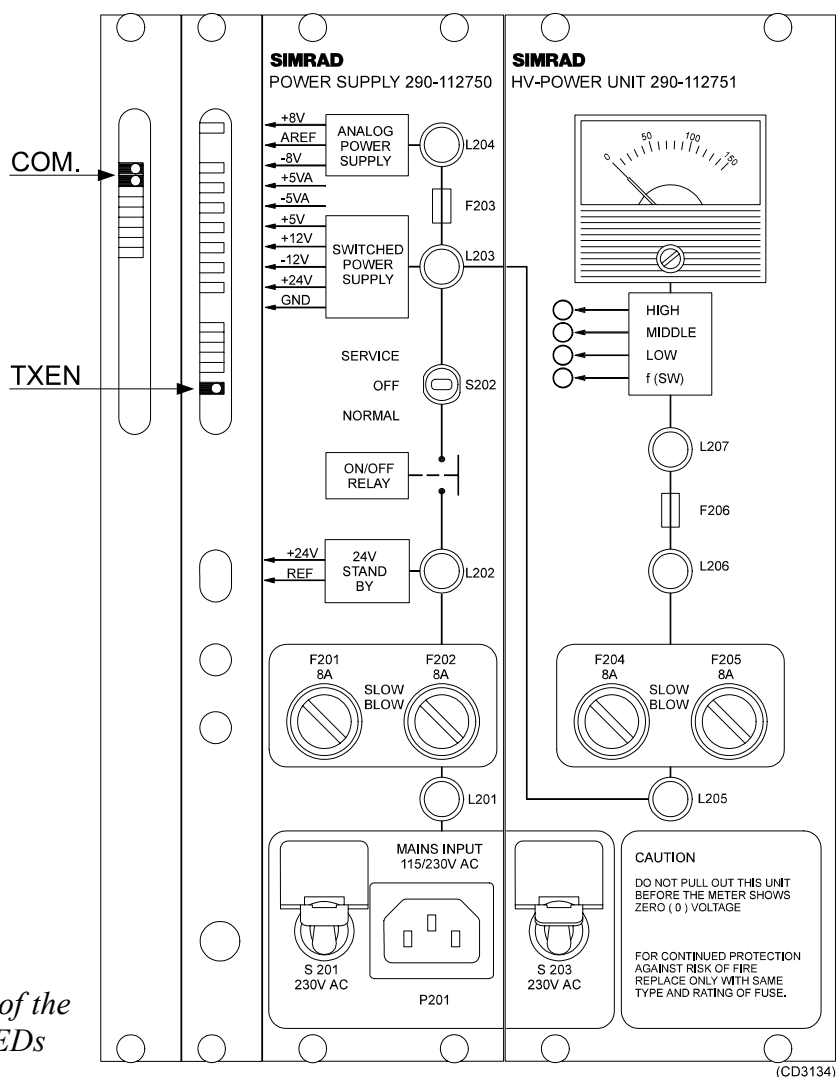

Figure 39 Location of the COM and TXEN LEDs
- *The COM and TXEN. LEDs are shown on figure 39 on page 117.*
→ *For location of the TXEN LED, refer to figure 39 on page 117.*